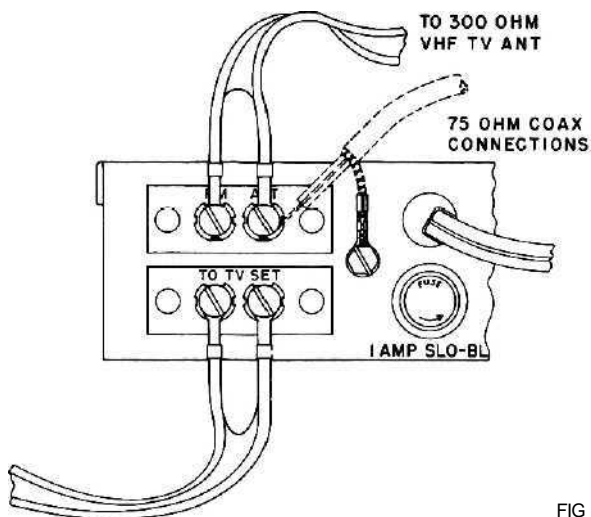

FIG 3
A substitute for the folded dipole can be an existing VHF T. V. antenna. The MR-55A is supplied with an internal switching arrangement that eliminates the need for two set couplers. The VHF T. V. antenna lead-in is connected to the antenna terminals marked "FM ANT." Connect the terminals marked "TO T. V. SET" to the antenna terminals on the T. V. receiver with 300 ohm antenna load. (See Fig. 3.) When the MR-55A selector switch is in either of the "FM" positions the antenna is disconnected automatically from the T. V. receiver. In any other position of the selector switch the antenna is connected to the T. V. set and disconnected from the tuner.
**75 OHM ANTENNA:** Facilities for the connection of a 75 ohm antenna have been provided on the back panel. Connect the center conductor of the 75 ohm antenna lead to the screw, on the FM antenna terminal strip identified by the word "ANT" appearing above the screw. The outer conductor or braided shield is connected to the sheet metal screw adjacent to the antenna terminal board. (See Fig. 3.) Two lugs have been provided in the parts bag to facilitate these connections. The impedance of the antenna system when connected thusly is a perfect 75 ohm match.